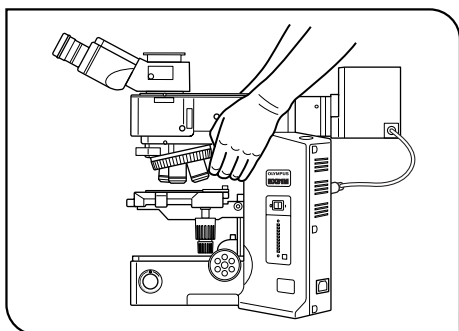
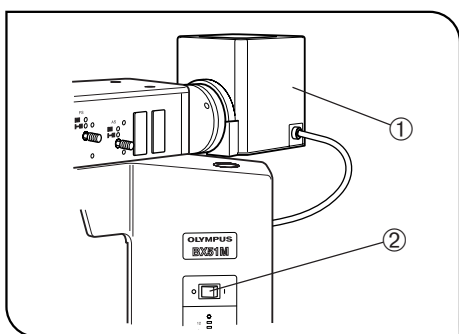

Fig. 1
Fig. 2
2. When moving the microscope, carefully carry it with the grasping part on the arm as shown in Fig. 1 (Weight: approx. 15 kg).
3. The surface of the lamp housing ① becomes very hot during operation. Before installing the lamp housing, be sure to reserve enough space around, particularly above, the lamp housing.
4. To avoid potential shock hazards and burns when replacing the light bulb, set the main switch ② to "●" (OFF) then disconnect the power cord from the wall outlet in advance. Whenever you replace the bulb during use or right after use, allow the lamp housing ① and bulb to cool before touching (Fig. 2).